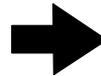

Fig. 4
Put face plate ② that you have detached in "2-1. Pen holder mounting position (Standard / laser type)" p.5 back into place as shown in Fig. 4.
Put the eye protection plate mounting plate back on the face plate with the previously-used screws as shown in Fig. 4.